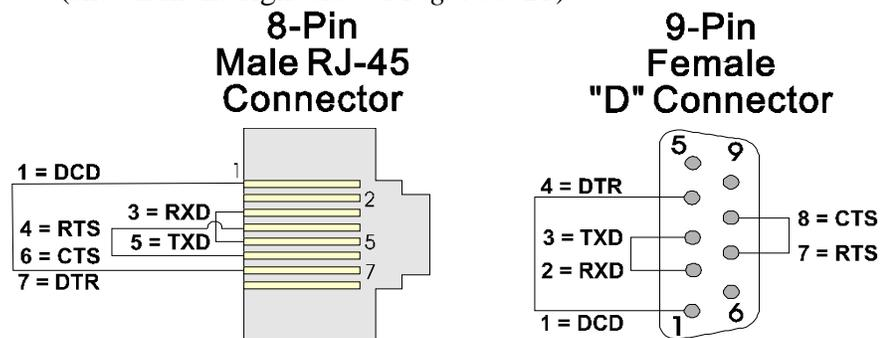

Figure 5-21. RS-232 Loop-back Plugs
- Ports 1 and 2 (RS-232) use a 9-pin female D-type loop-back plug (shown in the right side of *Figure 5-21*).
- Port 3 (RS-232) use an 8-pin male RJ-45 loop-back plug (shown in left side of *Figure 5-21*).